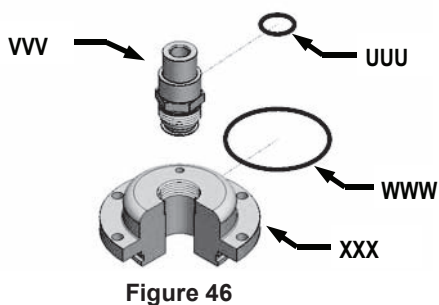
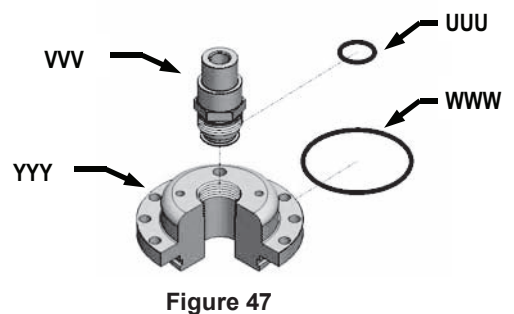

Figure 46
Figure 47
Step 57: Insert the Control Spring (NNN) assembly from Step 55 into the Spring Chamber (DDD or FFF). Fasten the Tube Cap (OOO) to the Inner Tube (CCC) with 4, 8-32 x 1/2" SHCS 316 SS (I). Use Tube Cap SS (000) and 8-32 x 1/2" SHCS Alloy (I) for the 1500 Model.
Step 58: For either the VRP-600-SB-PID (Figure 46) or VRP-1000/1500-SB-PID (Figure 47), slide a –141 O-Ring (WWW) over the Cartridge Cap (XXX or YYY), and a –115 O-Ring (UUU) over the Seal Neck (VVV). Thread the Seal Neck (VVV) into the Cartridge Cap (XXX or YYY).